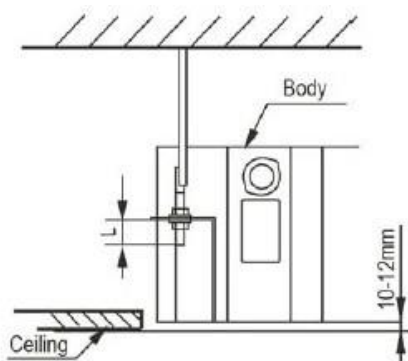

Fig.1
- Adjust the position to ensure the gaps between the body and the four sides of ceiling are even. The body's lower part should sink into the ceiling for 10~12 mm. (Refer to Fig.1)
- In general, L is half of the screw length of the installation hook. (Refer to Fig.1)